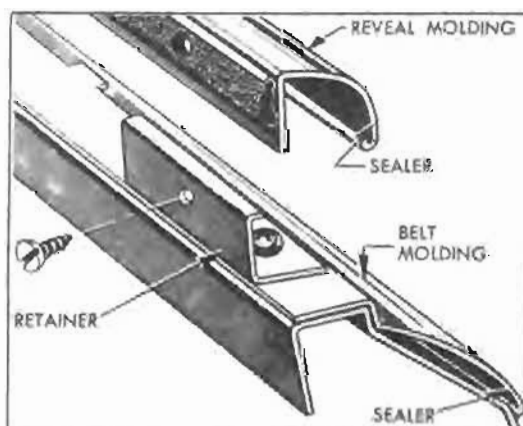

Figure 13-25—Door Lower Reveal and Belt Molding Attachments
4. Remove screws attaching molding to retainers on door, then lift molding up to remove it. See figure 13-25.
edge, (fig. 13-25), then install molding by reversing procedure for removal.
2. Remove screws and reveal molding retainers along lower edge of window opening, then remove belt molding. See figure 13-25.
3. Before installation of belt molding, apply 3-M Autobody Sealer along inside of outer curled edge (fig. 13-25), and to all retainer screw holes, then install molding by reversing procedure for removal.